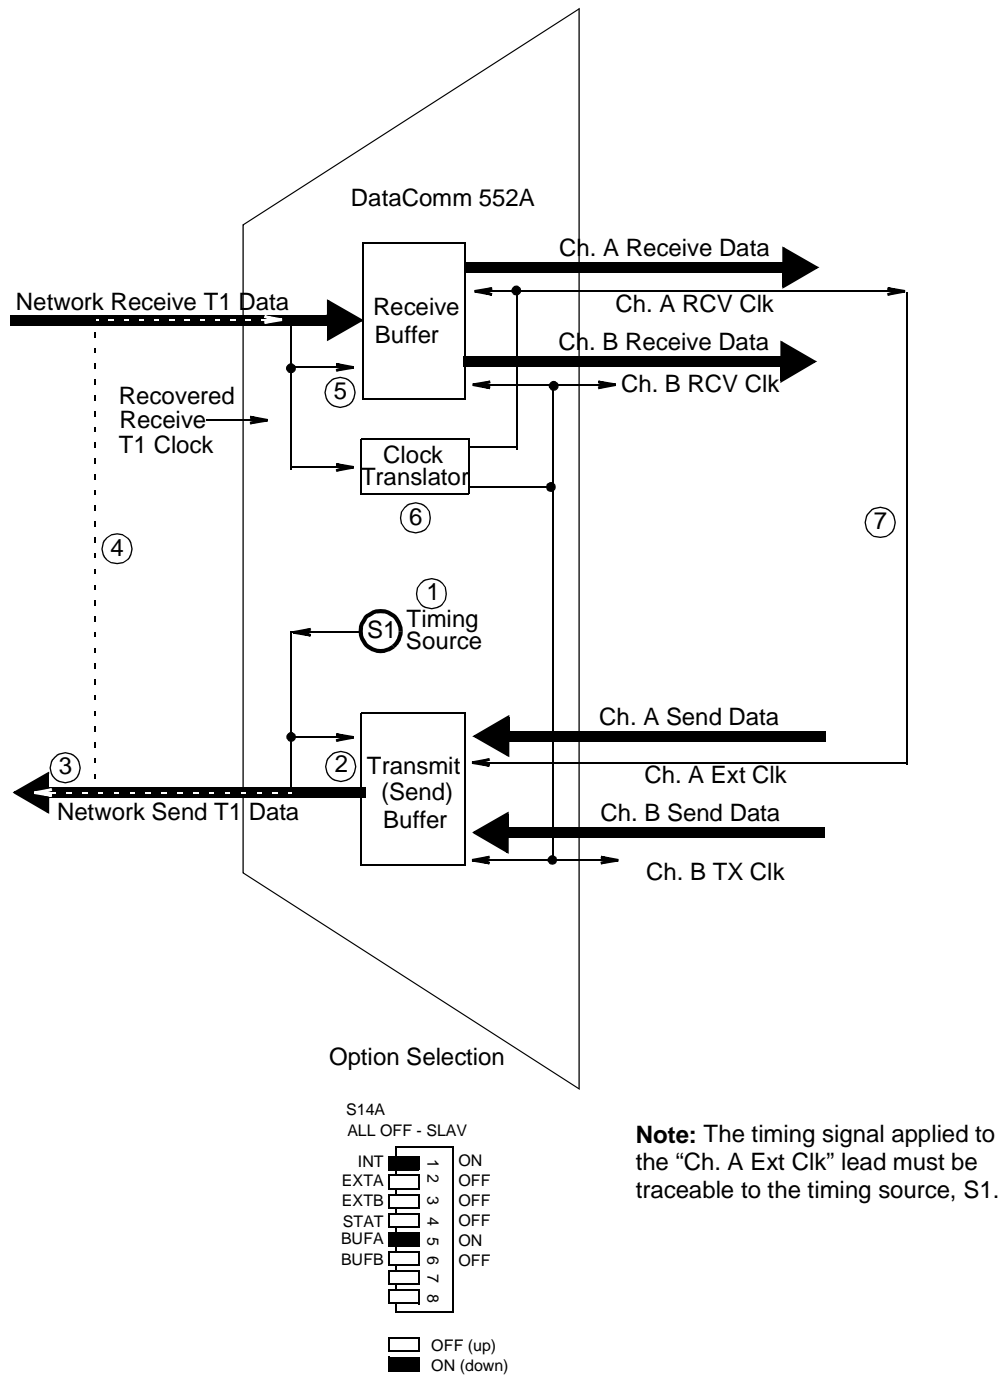

Figure B-8 Internal/Channel A Split Timing
Internal/Channel A Split Timing - With Internal/Channel A Split Timing, illustrated in Figure B-8, the DSU provides the send timing source (1) for T1 data output from the transmit buffer (2) to the network. (This clock satisfies the requirements of a Stratum 4, Type II clock, as defined in PUB 62411.) The remote DSU uses this as its timing reference (3) and loops it back to the DSU (4). The DSU recovers the receive T1 clock from the network receive T1 data and uses it to clock T1 data into the receive buffer (5). The DSU also translates (6) the receive T1 clock to create the clock transmit signal for Channel B and the receive clock signals for both channels, on the appropriate interface leads for each channel. The customer equipment on Channel A (or a device on the channel) must loop the receive clock signal back to the DSU on the Ch. A Ext Clk lead (7).